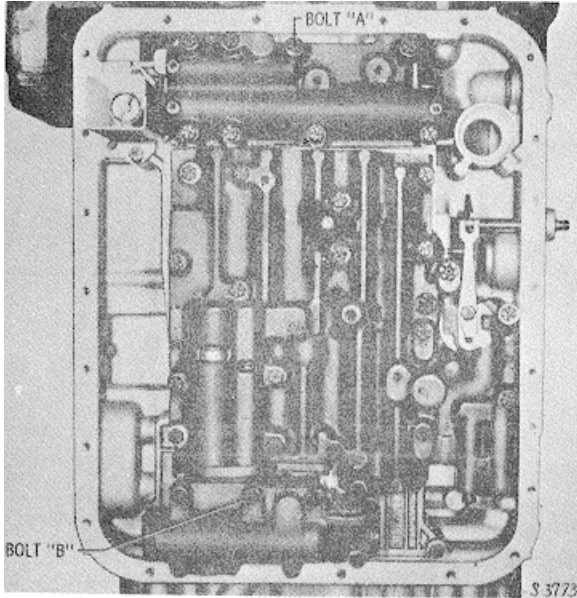

Fig. 7-56 Valve body assemblies (HT750)
(7) Install the low shift valve body onto the lower guide screw (fig. 7-56). Retain the body with one 1/4-20 x 2 3/4-inch bolt.
(8) Install the low trimmer valve (fig. 7-56). Install five of six 1/4-20 x 4-inch bolts to retain the trimmer valve. Remove the guide screw and install the remaining 4-inch bolt.